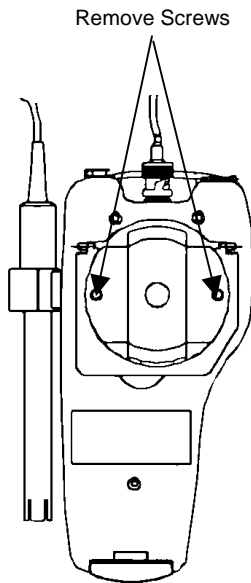

Figure 3: Back panel of meter showing battery compartment
1. Use a Philips screwdriver to remove the two screws holding the battery cover. See Figure 3 below.